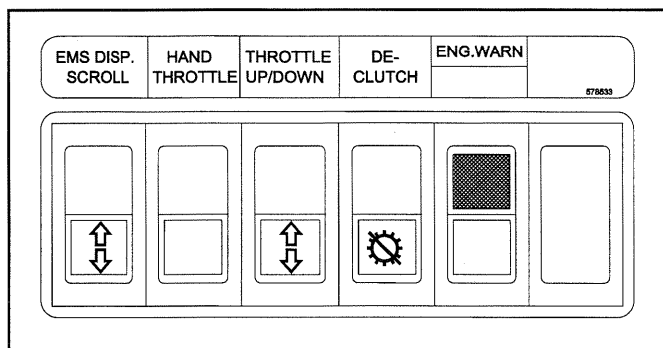

Figure 3-7: Control Switches
h. Control Switches (Refer to Figure 3-7)